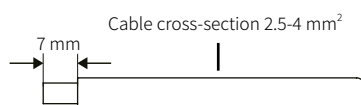

Fig. 37. Wire end stripping.
- b. Strip 7 mm of the insulation sleeve of the DC cable, as shown in Fig. 37: